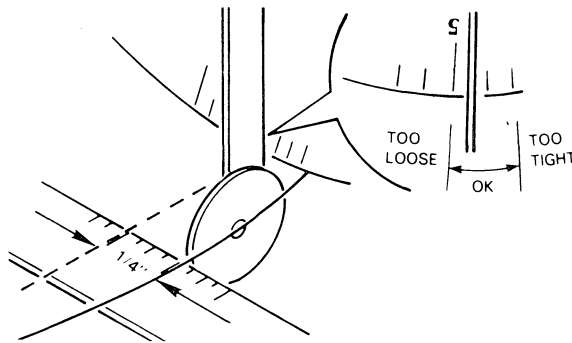

Figure 5.47 Ribbon Cartridge Drive Cable Adjustment
3. Hold the tensiometer as shown in figure 5.47.
5. With the tensiometer held vertically, and the scale facing left, pull forward on the cable with the disk of the tensiometer (figure 5.47).